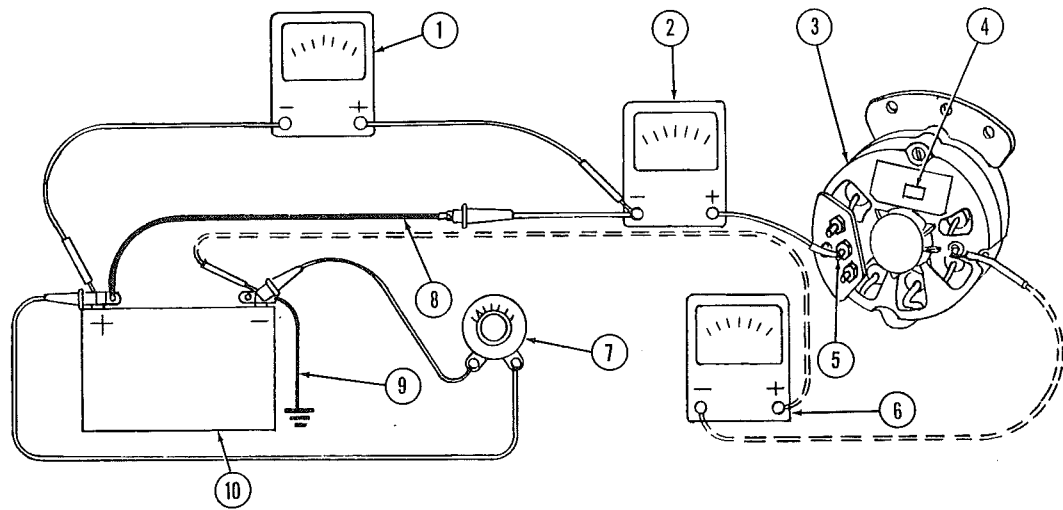

FIG. 71—BATTERY CHARGING CIRCUIT TEST
- b. Connect a DC voltmeter (30-volt range) with an accuracy of ±0.1 volt to the output terminal and negative battery terminal. See Fig. 71.
- a. Connect an ammeter in series with the alternator output terminal and output cable as shown in Fig. 71.
- b. Connect a carbon pile load to the positive and negative battery terminals as shown in Fig. 71.
- d. With engine speed and carbon pile adjusted to 10-ampere output current, measure the charging circuit voltage drop from the negative side of the ammeter to the positive battery terminal (Fig. 71). The voltage drop must not exceed 0.3 volt. If the voltage drop exceeds 0.3 volt, check all wiring and connections in charging circuit. A voltage drop test across each connection will locate the faulty connection. Clean and tighten all connections and repeat test.
- e. With 10-ampere alternator output current, measure the voltage drop of the battery ground return circuit. Connect the voltmeter from the alternator ground terminal to negative battery terminal (Fig. 71). Voltage drop must not exceed 0.15 volt. If voltage drop exceeds 0.15 volt, check